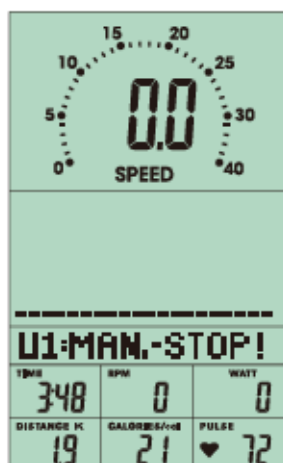

FIGURE 13
1. Press ENTER to enter MANUAL program, and the screen is blinking (FIGURE 13).